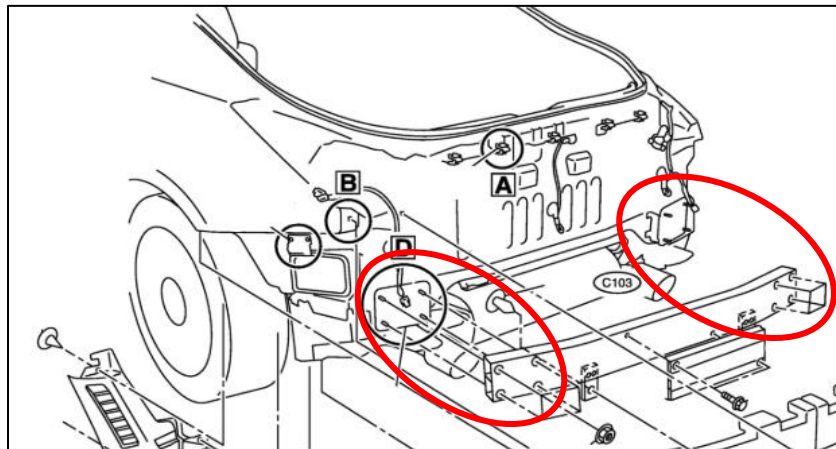

Figure 6
13. Remove the (8) eight nuts that secure the Rear Crash Bar to the vehicle. Retain this hardware. *Figure 6.*